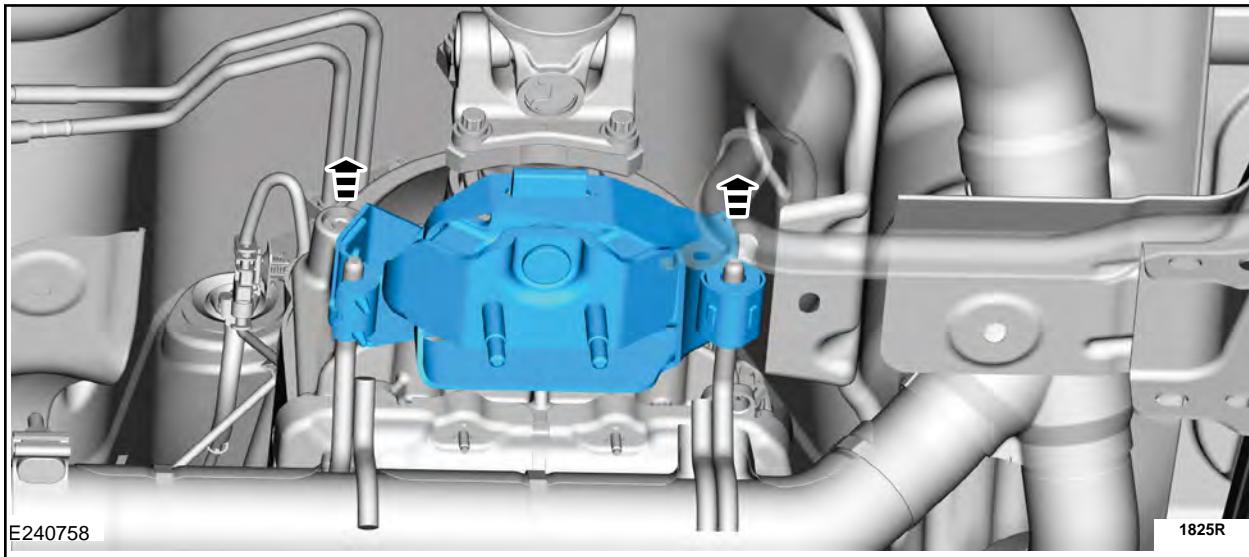

FIGURE 26
43. Remove the transmission support insulator. See Figure 26.